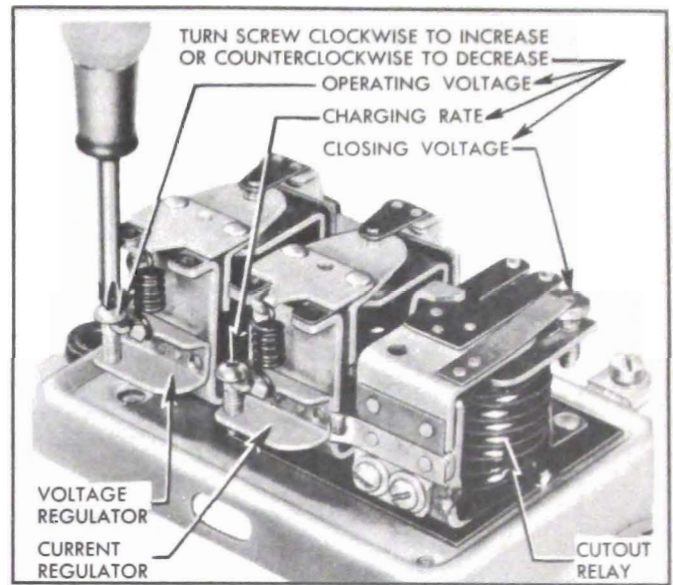

Figure 10-19—Generator Regulator Spring Tension Adjustments
ing screw counterclockwise decreases closing voltage. See figure 10-19. After adjustment, install cover and recheck closing voltage.
18. If either the voltage or current regulator did not operate within specified limits, remove regulator cover and adjust armature spring tension as required. Turn adjusting screw clockwise to increase operating voltage or charging rate; turn counterclockwise to decrease operating voltage or charging rate. See figure 10-19. *The final setting must always be made by turning screw clockwise to increase voltage or charging rate—never by turning screw counterclockwise.*
age of 6.4. Adjusting screw has a *left-hand thread*, therefore turning screw clockwise increases spring tension and closing voltage; turning screw counterclockwise decreases closing voltage. See figure 10-19. *After adjustment, install cover and recheck closing voltage.*
18. If contact points are in satisfactory condition but either the voltage or current regulator did not operate within specified limits, adjust armature spring tension as required. Turn adjusting screw clockwise to increase operating voltage or charging rate; turn counterclockwise to decrease operating voltage or charging rate. See figure 10-19. *The final setting must always be made by turning screw clockwise to increase voltage or charging rate—never by turning screw counterclockwise.*